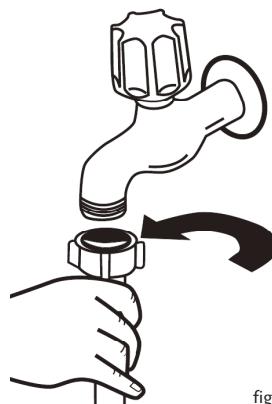

fig. 11
( Fig.11 )
- 3、 If so, rest the bottom edge of the panel on the base moulding and mark the part to be cut. Leave at least 3 mm of the play between the panel and the base moulding to allow for the door to rotate freely (Fig.11)
- 4、 Remove the base moulding and trim it as needed, protecting the surface that has been cut with a paint or similar wood finish (Fig.11)